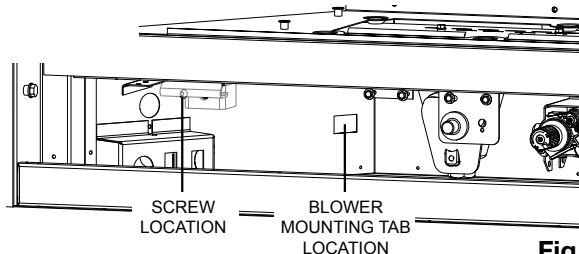

Fig. 1
- Adjust the air shutter rod until the desired flame is achieved. Push up to close and pull down to open (**Fig. 1**).
6. Pivot the blower into the bottom of the appliance, ensuring the gasket remains in place between the blower and outer shell while sliding the blower against the left side of the outer shell into the blower mounting tab. Secure in place using one screw (**Fig. 1 and 2**).